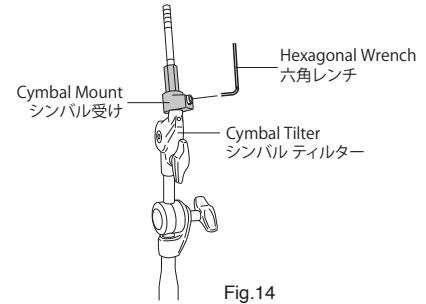

Fig.14
1. Unscrew the Cymbal Nut from the Cymbal Holder. Insert the Cymbal Mount onto the Cymbal Tilter until fully seated as shown. Tighten the hexagonal screw with the provided wrench (Fig.14).
シンバル受けをシンバルティルターのロッドに根元まで差しこみ、付属の六角レンチで固定します (Fig.14)。